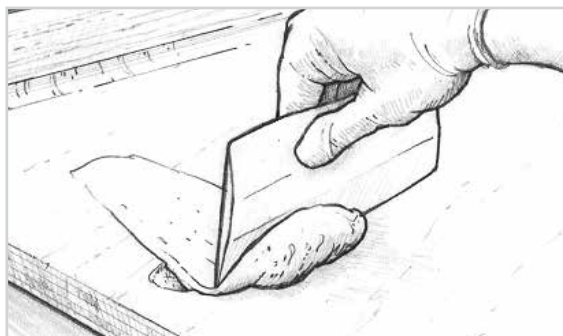

Figure 16-15 Trowel the thickened epoxy fairing compound into the voids and depressions with a plastic spreader.
4. Trowel on the thickened epoxy mixture with a plastic spreader, working it into all voids and depressions. Smooth the mixture to the desired shape, leaving the mixture slightly higher than the surrounding area (Figure 16-15). Remove any excess thickened epoxy before it cures. If the voids you are filling are over ½" deep, apply the mixture in several applications or use 206 Slow Hardener or 209 Extra Slow Hardener, depending on ambient temperature.